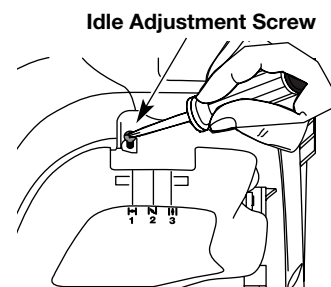

Fig. 32
The idle speed of the engine is adjustable. An idle adjustment screw is between the air filter cover and the engine starter housing (Fig. 32).
2. Move the throttle control to the idle position (☛) and let the engine idle. If the engine stops, insert a small phillips screwdriver in between the Air Filter Cover and the Engine Cover (Fig. 32). Turn the idle speed screw in, clockwise, 1/8 of a turn at a time (as needed) until the engine idles smoothly.